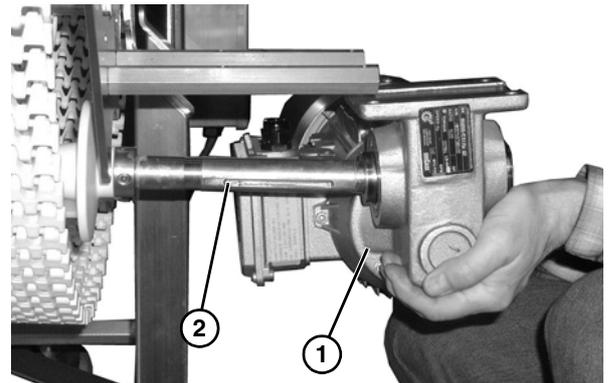

Figure 62
3. Slide the gearmotor assembly (Figure 62, item 1) off of the drive spindle (Figure 62, item 2)